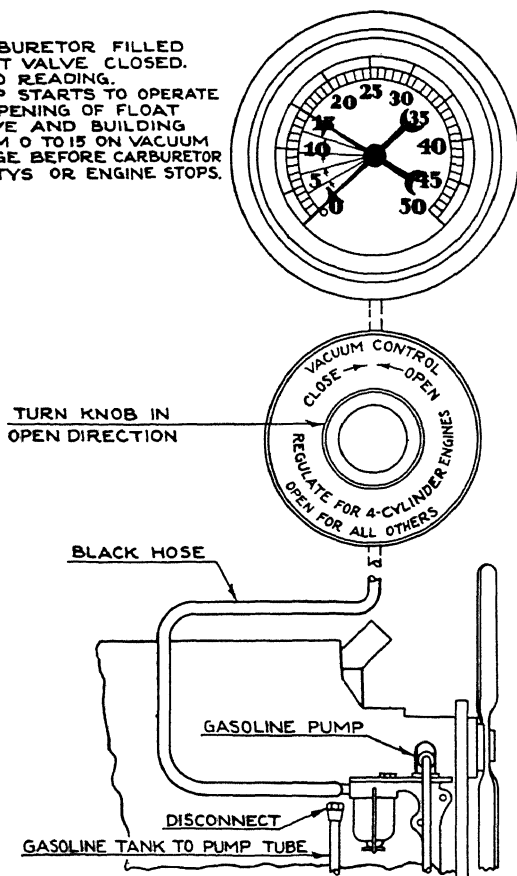

Fig. 35. Carburetor Test Equipment
**Carburetor Test.** A carburetor cannot be adjusted properly unless all previous tests up to this point are satisfactory or the defects disclosed have been corrected. Good ignition, good compression, good spark plugs, and proper valve action are necessary for correct carburetor performance. A visual inspection should be made for gasoline leaks at connections and under carburetor bowl. Connect black vacuum hose, Fig. 35, as close as possible to intake manifold.